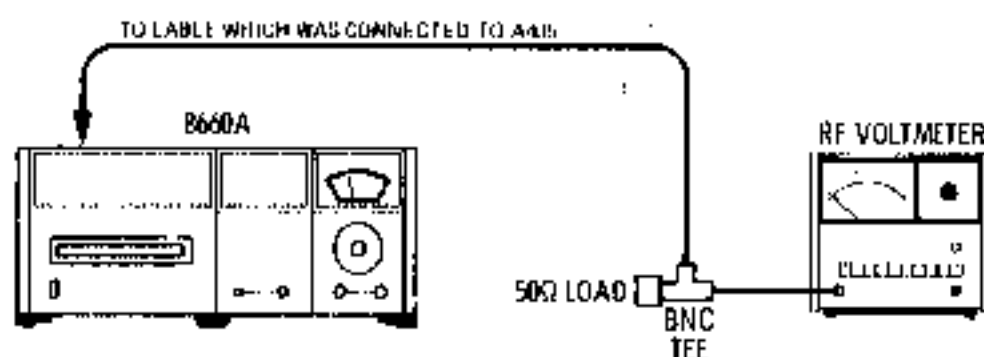

Figure 5-9. A22A1 Adjustment Test Setup
3. Remove 5/10 MHz Reference input cable from A4J5. Connect the cable to the RF Voltmeter as shown in Figure 5-9.